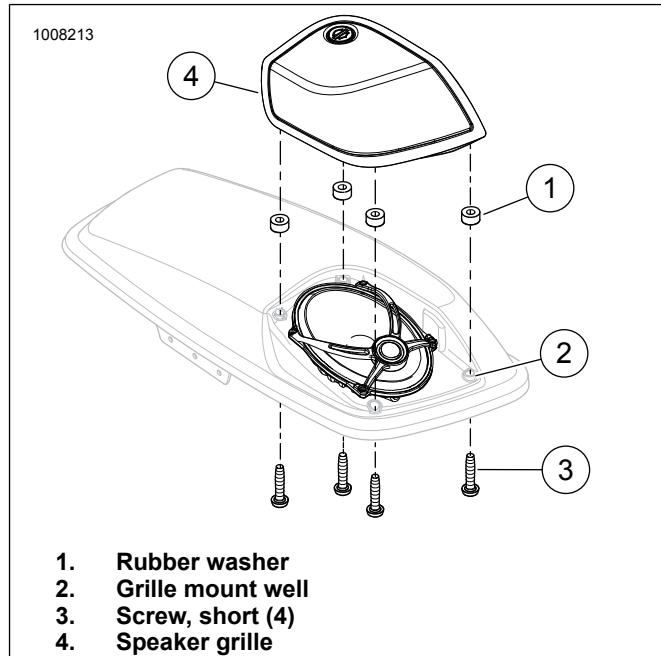

Figure 19. Grille Installation and Removal
7. See Figure 19. Remove the speaker grille screws (3). Retain for later use.
8. Remove speaker grille (4). Retain for later use.
9. Note location of the rubber washers (1) for reuse.